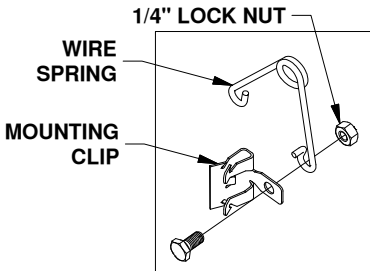
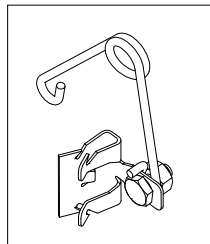

Figure E1:
Figure E2:
1. **Assemble kit.** Locate the 1/4" cap screw and nut, along with the wire torsion spring and mounting clip. Pass the 1/4" cap screw through the mounting clip and the wire spring, as shown in Figure E1. Thread the 1/4" lock nut onto the 1/4" cap screw. Tighten the lock nut just enough that the spring will stay in place but will still be able to rotate around the bolt if needed, see Figure E2.